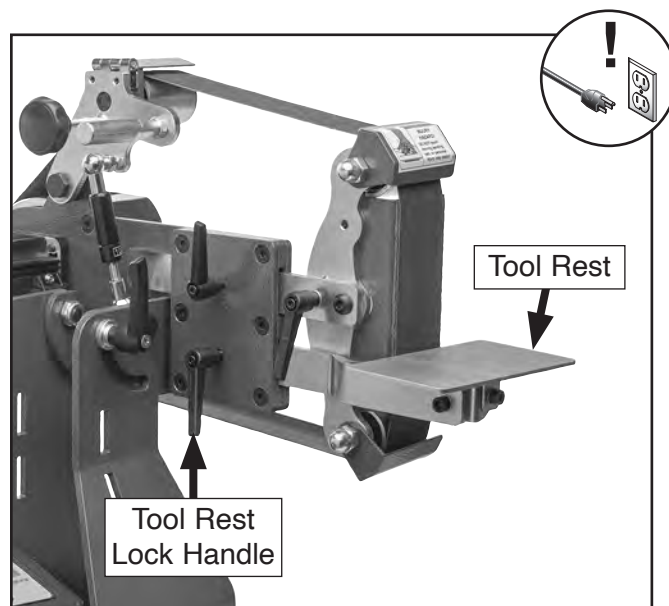

Figure 19. Tool rest installed on machine.
17. Loosen tool rest lock handle, install tool rest, adjust it so there is no more than 1/16" between rest and belt, then tighten handle to secure (see **Figure 19**).